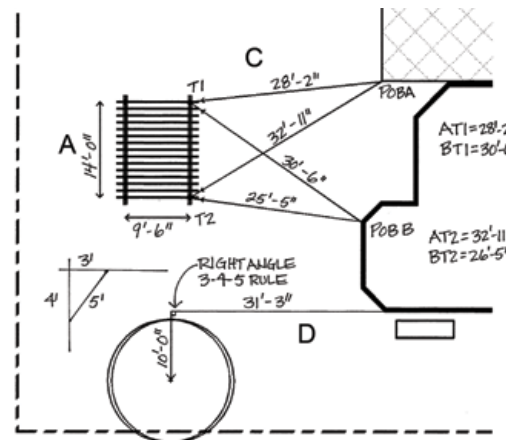

FIGURE 6. Triangulation measurements for arbor (Credit: Gail Hansen)
Figure 6 shows another use of the triangulation method (C). In this situation, two points are located at the posts
of a trellis (T1 and T2). Each point is measured from two different corners of the house (POB A and POB B). Figure 6 also shows simple point-to-point measurements (A) between the corner posts of the trellis and a simple grid or right angle measurement (D) to locate the tree. In the right angle method, a tape is pulled as an extension of the side of the house and a second tape is pulled from the center of the tree. Where the two tapes cross, the 3-4-5 rule from basic geometry,  $A^2 + B^2 = C^2$ , is used to make sure the tapes form a right angle (90°). This means the square of the hypotenuse (long side) of a right triangle is equal to the sum of the square of both legs (Pythagorean Theorem). Start by crossing the tape from the tree over the tape from the house at a right angle. Estimate the angle by sight. Measure 4 ft from the corner of the tree tape and mark, then measure 3 ft from the corner of the house tape and mark. Measure the distance between these marks with a third tape. If the distance is 5 ft, it is a right triangle. If not, adjust the tapes until you have a 5 ft hypotenuse (long side of a right triangle) and 3 and 4 ft legs on the triangle. For longer distances, use a larger number combination where all three numbers are multiples of 3-4-5, such as 15-20-25 (3 x 5 = 15, 4 x 5 = 20, 5 x 5 = 25).